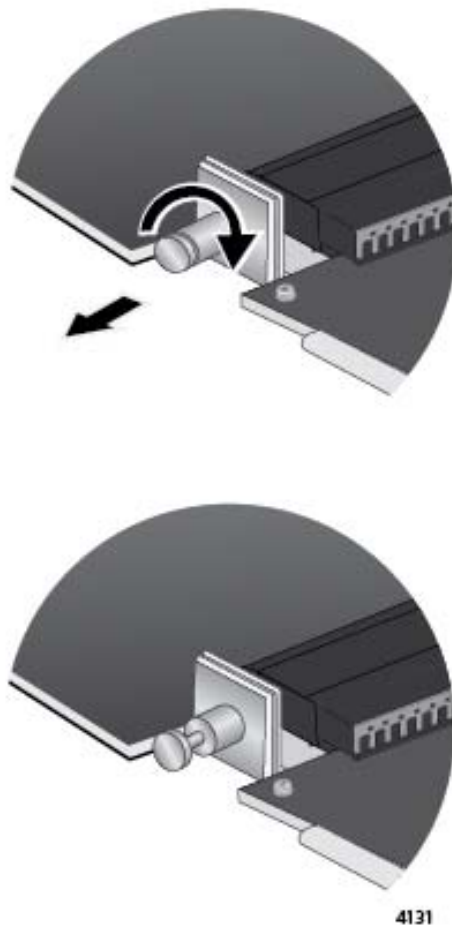

Figure 172. Retracting the Retaining Pin on the AT-SBx81XLEM Line Card
4. With your thumb and forefinger, pull out the retaining pin on the side of the line card and turn it clockwise one quarter turn until it remains in the retracted position. Refer to Figure 172.